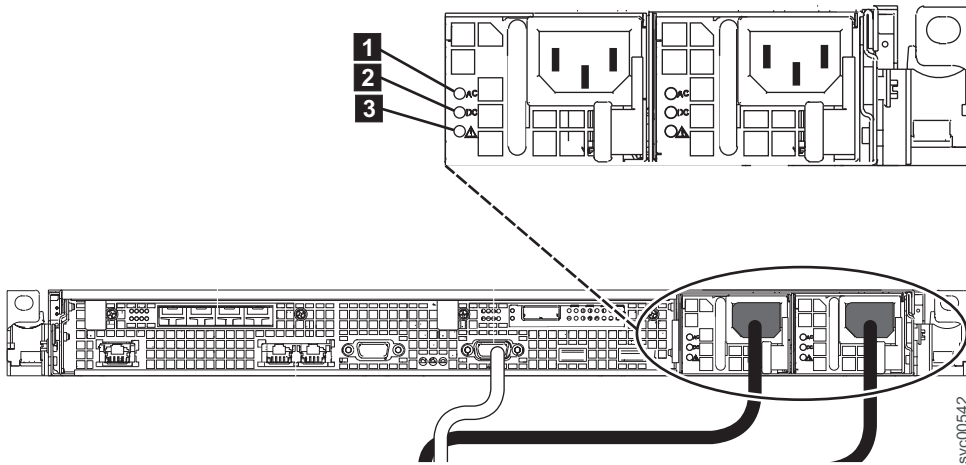

Figure 156. SAN Volume Controller 2145-CG8 or 2145-CF8 ac, dc, and power-error LEDs
5. To the left of the power-cord connector on each power supply, verify that the ac power LED, as shown by **1** in Figure 156 on page 166, and the dc power LED (**2**) are lit.